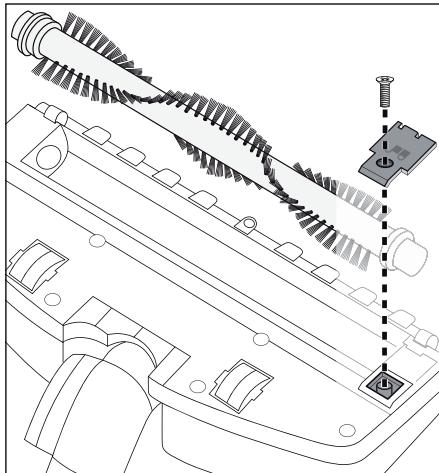

Fig. 5
The rotary brush ⑯ can become covered in residues, such as hair, after a while. To remove this dirt, you can remove the rotary brush ⑯ (Fig. 5).
- 4) Press the holding pin to one side, for instance with a screw driver, and lift out the rotary brush ⑯.
- 5) To replace the rotary brush ⑯, first push the broad end onto the drive shaft so that the rotary brush ⑯ hooks into place.
- 6) Then push in the other end so that the rotary brush ⑯ clicks into place under the holding pin.